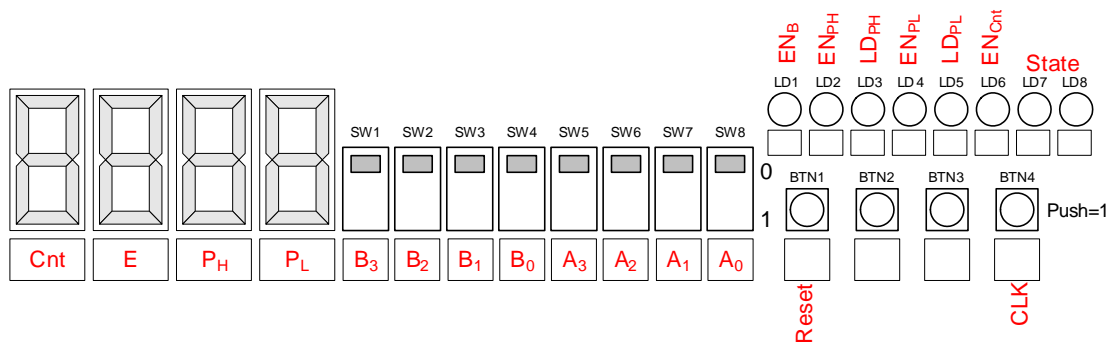

Figure 12.8: Multiplier Inputs/Outputs Assignment.
15. Use four switches (SW5-SW8) to load the *multiplier* (A) into P_L , and four switches (SW1-SW4) to load the *multiplacand* (B) into its register as in Figure 12.8.